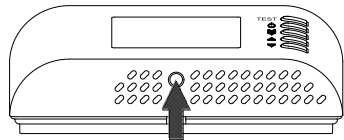

Fig. 2
- 2 Push the plastic tab in the lower slot using a screwdriver, slightly lifting the cover (Fig. 2).